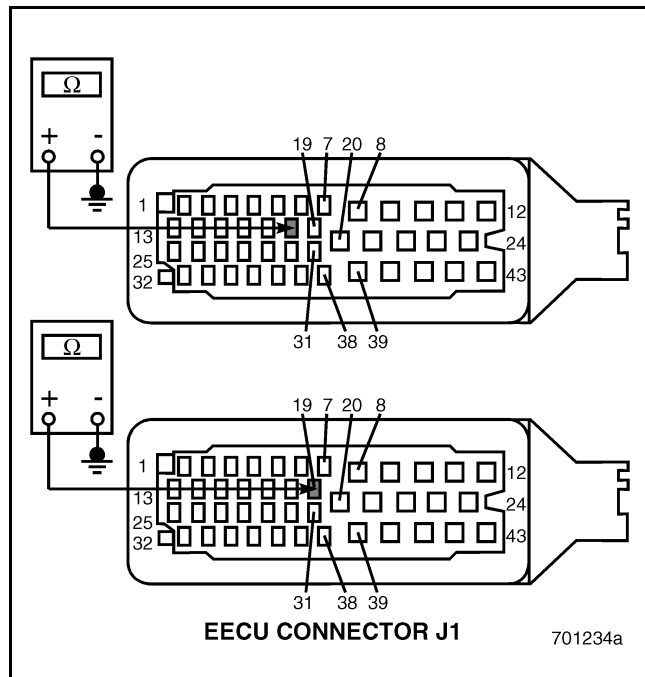

Figure 397
3. Disconnect the Engine Position (EP) Sensor.
4. Check for continuity between EECU connector J1 pin 19 and a good ground. Check for continuity between EECU connector J1 pin 18 and a good ground (see Figure 397).